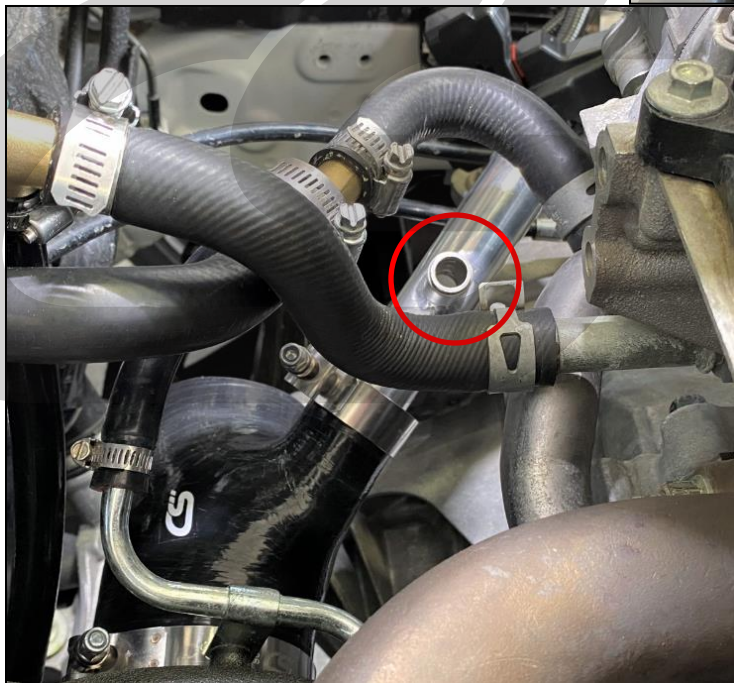

Figure 5j
- p) Trim this final hose to length and connect it to the port on the intake pipe. Shown in **Figure 5j**.